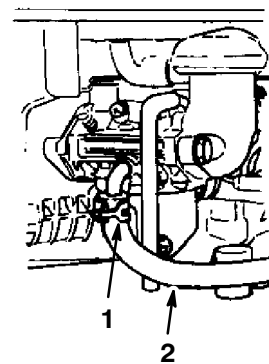

Figure 23
3. Remove the fuel tube by loosening the tube clamp at the carburetor (Fig. 23).